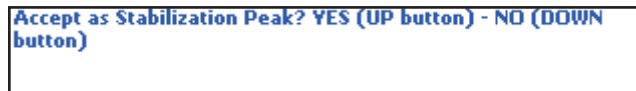

Figure 47 Accepting the Stabilizer Peak
3. An ROI will be painted on the peak's stabilization window. The InSpector will ask you to Accept the reference peak by selecting the Up Arrow (Figure 47). Stabilization will start.